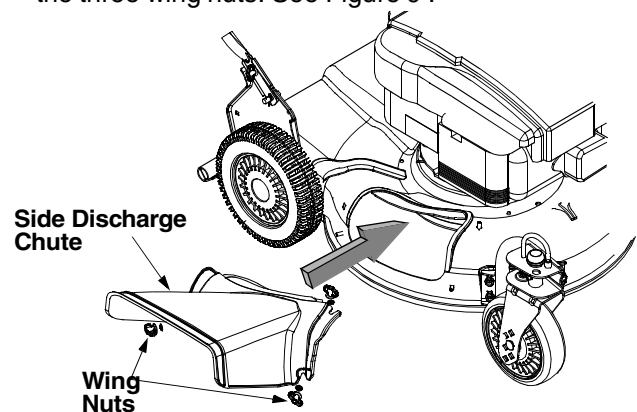

Figure 9
- Attach side-discharge chute to unit and secure with the three wing nuts. See Figure 9.